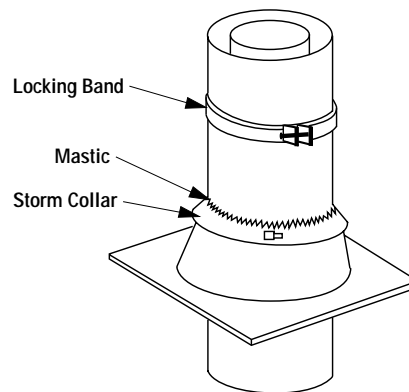

Figure 28
Step 7. The standard Security FTF10 roof flashing assemblies include a storm collar. Slide the storm collar over outer chimney, rest on flashing spacers and align with top surface of flashing. Insert tab in slot, pull tight and bend tab back over slot. Seal storm collar to outer chimney with roof caulking or mastic around entire circumference of pipe. Also add extra roof caulking to the tab/slot area to seal completely against water penetration (*Figure 28*). Check all joints very carefully to ensure no water intrusion can take place.